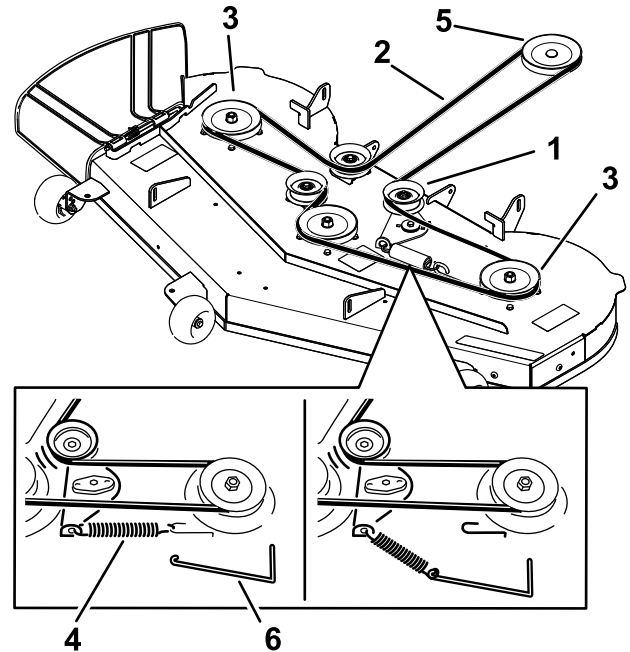

Figure 50
6. Route the new belt around the engine pulley and mower pulleys (Figure 50).
7. Using a spring-removal tool (Toro Part No. 92-5771), install the idler spring over the deck hook and place tension on the idler pulley and the mower belt (Figure 50).
5. Using a spring-removal tool (Toro Part No. 92-5771), remove the idler spring from the deck hook to remove tension on the idler pulley and roll the belt off the pulleys (Figure 50).